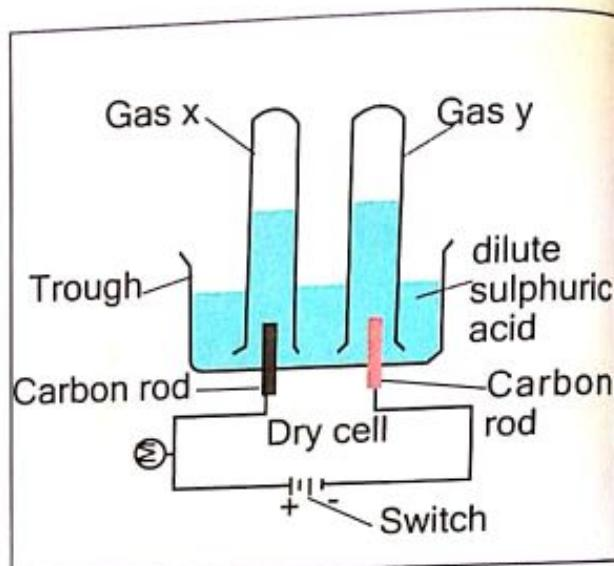

Figure 1.12: Electrolysis of dilute sulphuric acid solution
1. Fill the electrolytic cell as set up in Fig. 1.12. with 0.5 mol dm^{-3} dilute sulphuric acid, until it is half full.
2. Fill a test tube will dilute sulphuric acid and then immerse it at the anode and cathode as shown in Fig. 1.12.